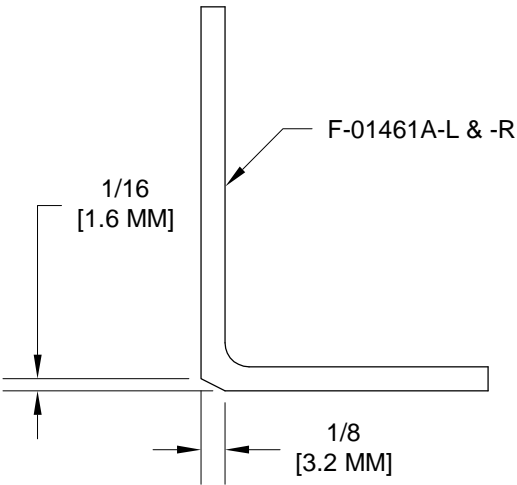

FIGURE 2: ROLL BAR ANGLE CHAMFER
Step 2: Chamfer the F-01461A-L & -R Roll Bar Angles as shown in Figure 2.